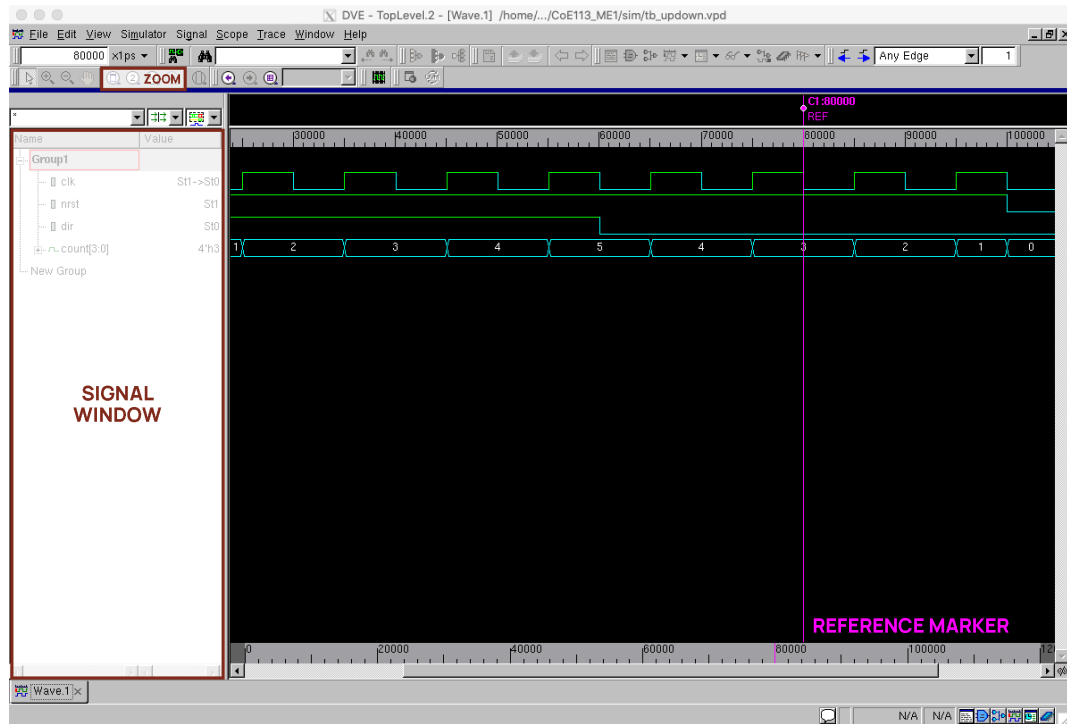

Figure 3: DVE waveform viewer.
4. To view the signals of the testbench, select *tb_updown* in the hierarchy pane, then select all four signals (*clk*, *nrst*, *dir*, and *count*) in the data pane by holding the control key and clicking on each signal. While selected, right-click anywhere on the GUI to pop up a menu and select “Add to waves” → “New wave view”. A new window will open similar to the one shown in Figure 3. This waveform viewer window will show a timing diagram of the simulation dumped into the dumpfile. A signal pane will display all signals that were selected. You can add additional signals to the waveform viewer by going back to the main DVE GUI, selecting a signal, right-clicking to bring up the menu, and selecting “Add to waves” → “Add to Wave.X” where Wave.X is the name of the waveform viewer window (alternatively, you can just select the signals and press Ctrl+4).